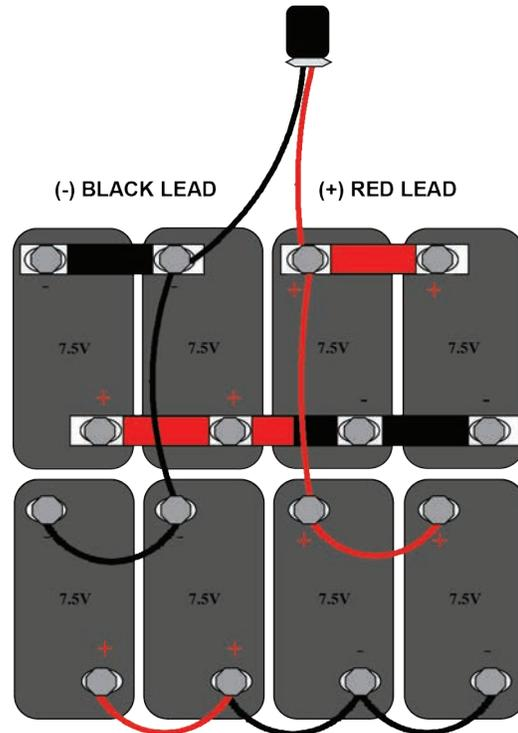

Figure 2:
In situations when there is heavy voice traffic on the system or where access to the site is limited, NIRSC recommends a double-battery system to avoid power failure during the incident. Even with a double battery system, voltage should be checked or batteries replaced every 7 days. Solar Panel Kits (NFES# 004080) are available from NIRSC and are recommended for use at sites with limited access. Contact the CDO for Solar Panel Kit availability before ordering. *(See Figure 2)*
1. ANTENNA SETUP: (See Figure 2)